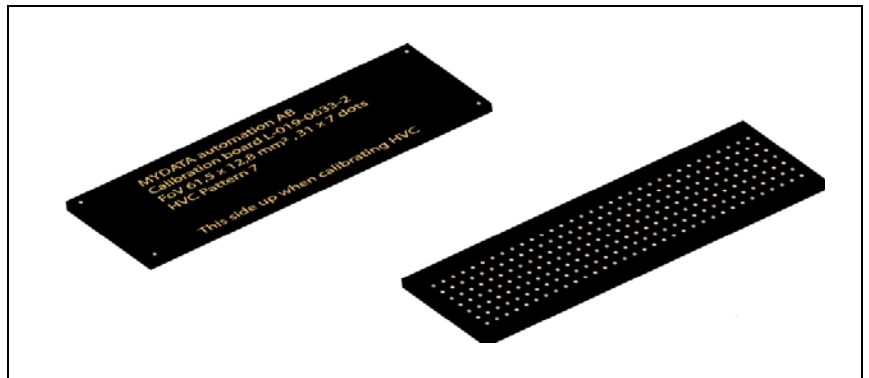

Figure 4-26. L-019-0633-2 Calibration plate.
- Calibration plate HYDRA camera (L-019-0633-2), see Figure 4-26.
- When prompted, place the calibration plate on the area calibration background (If not already done, insert the area calibration background as described in step 2 on page 4-13). The calibration plate should be placed on the calibration background with the text facing up, see Figure 4-26.